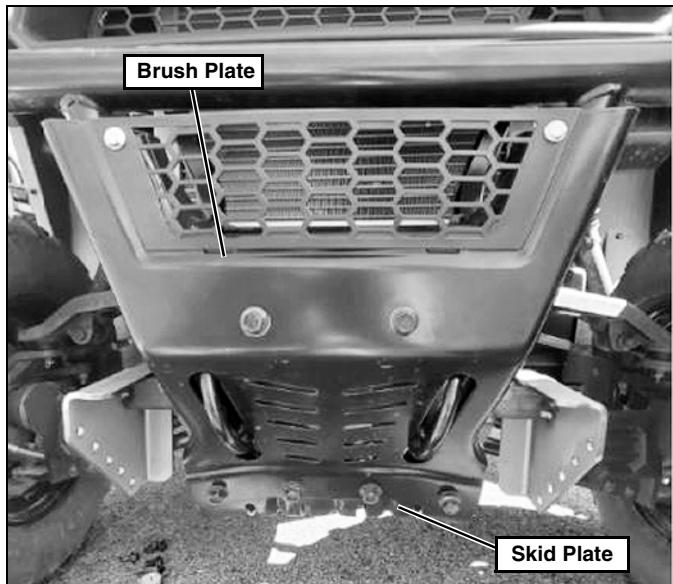

Figure 9
12. Re-Install the Skid Plate and Brush Plate from step 1. Then tighten hardware. (See Figure 9.)